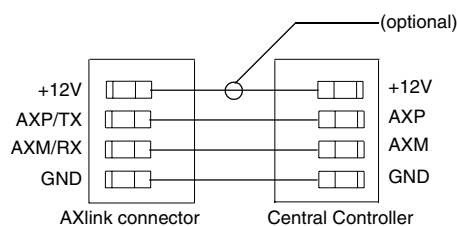

FIG. 20 AXlink wiring diagram
3. Connect the four-pin AXlink male connector into the four-pin female AXlink connector on the controller circuit card. FIG. 20 shows how to wire the AXlink connector to a Central Controller system.